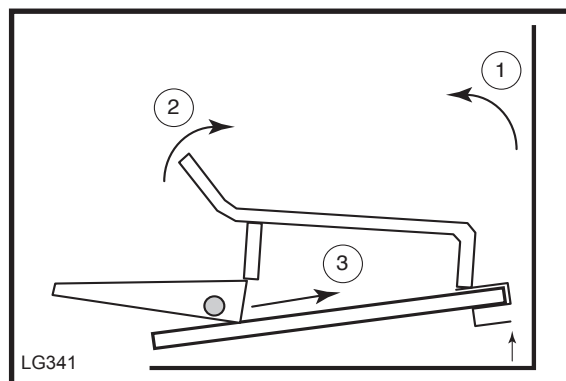

Fig. 1 Pull back of grate and hearth brick up, tilt front of grate up and slide burner pan under.
1. Place the burner pan in the fireplace. Pull the grate so the back side of the hearth brick pulls up (1, Fig. 1) enough for you to tilt the grate up (2, Fig. 1) to slide the pan underneath. (3, Fig. 1) The burner should be located several inches from the backwall, centered left to right.